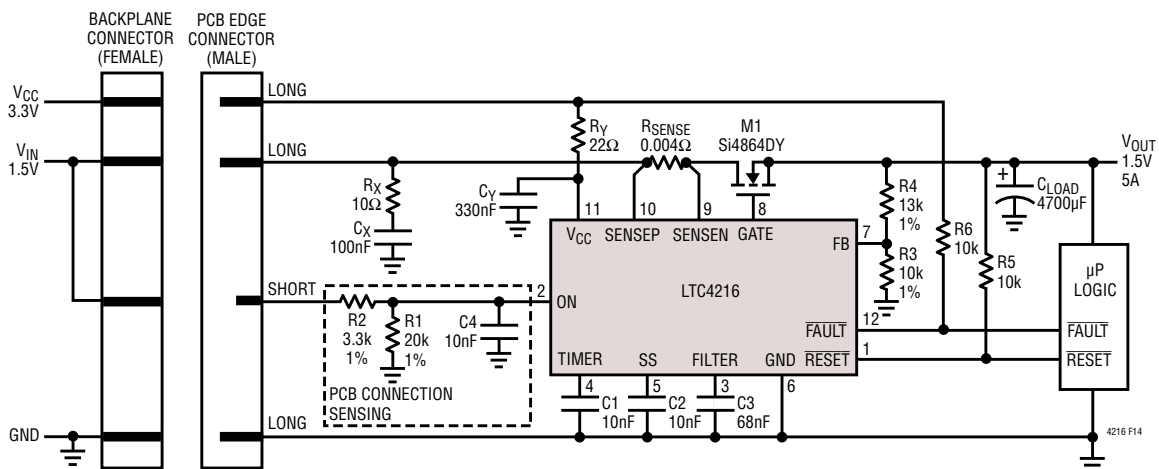

Figure 14. Single Channel 1.5V Hot Swap Controller
The LTC4216 can be used on either the backplane side of the connector or a printed circuit board, and examples for both are shown in Figure 14 and 15. Printed circuit board edge connectors with staggered pins are recommended as the insertion and removal of circuit boards will sequence the pin connections. Supplies (V_{CC} and SENSEP) and ground connections on the printed circuit board should be wired to the long pins or blades of the edge connector. Control signal (ON) and status signals ($\overline{\text{RESET}}$ and $\overline{\text{FAULT}}$) passing through the edge connector should be wired to short pins or blades.
An example is shown in Figure 14, in which the LTC4216 is mounted on the PCB and the R1/R2 resistive divider is connected to the ON pin. On the edge connector, R2 is wired to a short pin. Before the connectors are mated, the ON pin is held low by R1, keeping the LTC4216 in an off state. When the connectors are mated, the resistive divider is connected to the load supply (V_{IN}) and the ON pin voltage rises above 0.8V, turning the LTC4216 on.